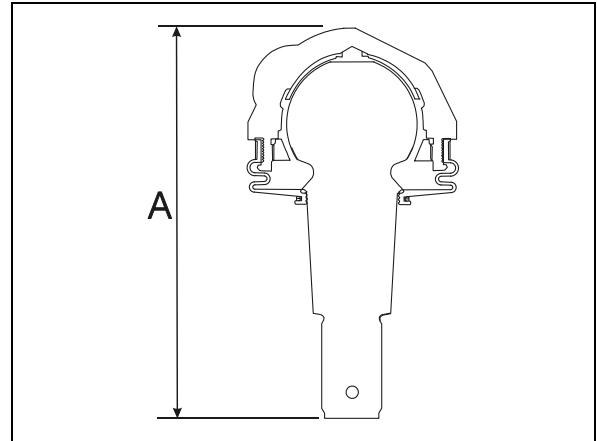

FIGURE 33: UPPER A-ARM BALL JOINT 16116
2. Using a caliper, measure dimension "A" on figure 33.